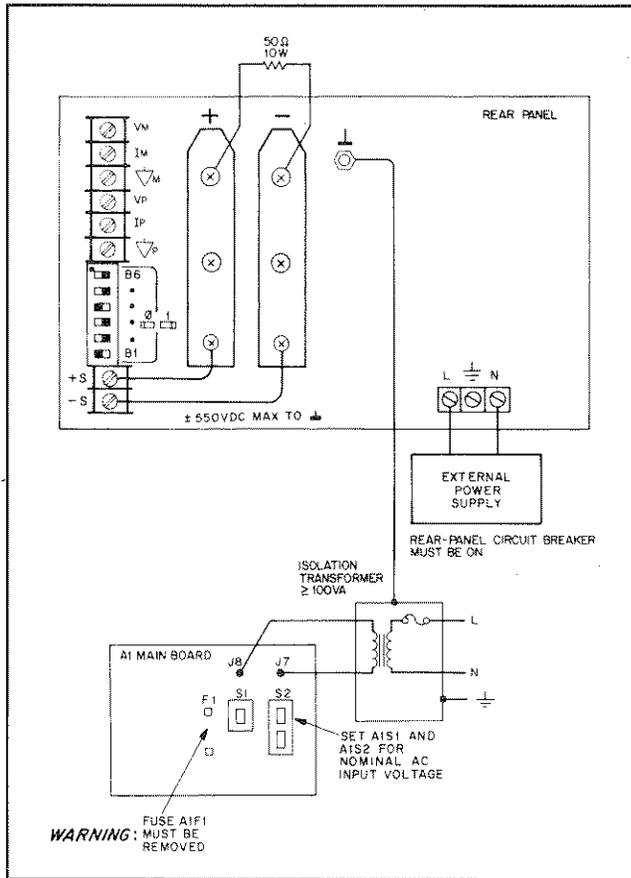

Figure 5-9. Main Troubleshooting Setup
5-74 Figure 5-9 shows the troubleshooting setup for troubleshooting all of the unit except the front panel and initial no-output failures (see paragraph 5-77). The external power supply provides the unit's internal bus voltage. The ac mains cord connects to the unit's A1T3 bias transformer via an isolation transformer, thereby energizing the bias supplies, but it does not connect to the input rectifier and filter because that would create the bus voltage. With the external supply the unit operates as a dc-to-dc converter. The supply biases the A4Q1, A4Q2, A4Q3 and A4Q4 PFETs with a low voltage rather than the 320 Vdc bus voltage. This protects the PFETs from failure from excess power dissipation if the power-limit comparator or the off-pulse circuitry are defective. It also reduces the possibility of electrical shock to the troubleshooter.
An isolation transformer provides ac voltage that is not referenced to earth ground, thereby reducing the possibility of accidentally touching two points having high ac potential between them. Failure to use an isolation transformer as shown in Figure 5-9 will cause the ac mains voltage to be connected directly to many components and circuits within the power supply, including the FET heatsinks, as well as to the terminals of the external dc power supply. Failure to use an isolation transformer is a definite personal-injury hazard.
The troubleshooting setup of Figure 5-9 connects high ac voltage to relay K1, fan B1, fuseholder A1F1, and other components and circuits along the front of the A1 main board.
- e. Complete the setup of Figure 5-9 by attaching an ac mains cord to test points J8 (L, black wire) and J7 (N, white wire) and connect the green ground wire to the unit's case ground terminal or a suitably grounded cabinet screw. See Figure 5-10 (b). Plus the mains cord into an isolation transformer.